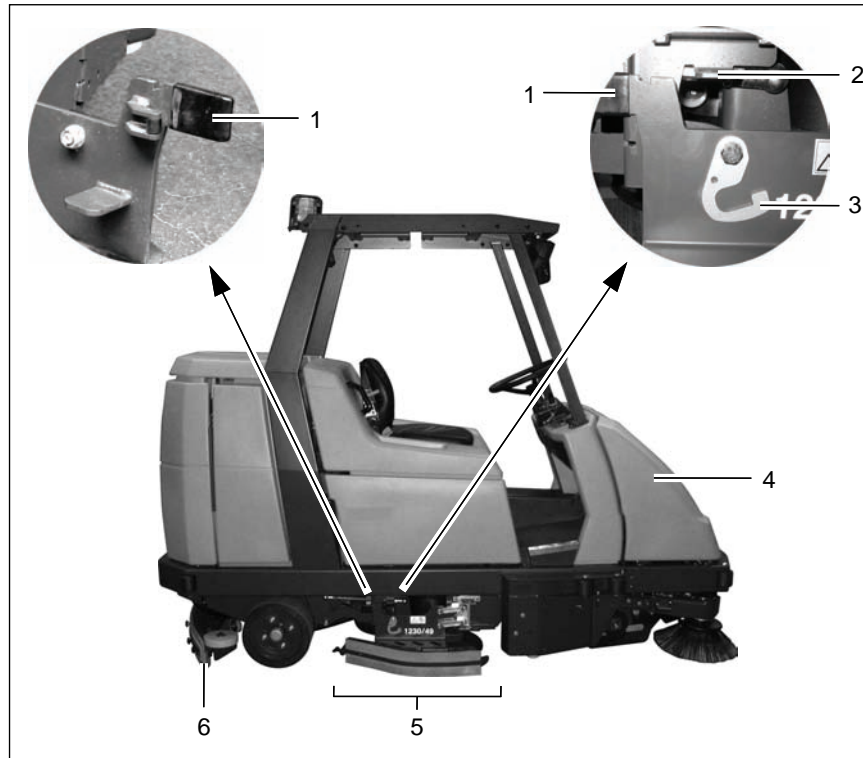

Fig. 15
3.1.1 Pre-sweep/vacuum unit (Fig. 15/4)
3.1.2 Scrubbing unit (Fig. 15/5)
Deflectors (Fig. 15/5)
The deflectors can be raised, if necessary. This is the case for basic cleaning, for example, where the floor only needs to be scrubbed when wet and the solution is not vacuumed up but allowed to soak in instead. To raise the deflector, take hold of the grip (Fig. 15/1), raise it and hook the locking hooks (Fig. 15/3) in the recesses in the angle (Fig. 15/2) above it. Proceed in the same way on the other side of the side of the vehicle.
3.1.3 Squeegee (Fig. 15/6)
The collision protection for the two side brushes on the pre-sweep/vacuum unit consists of two angled steel bars which can be assembled at the front left and front right of the pre-sweep/vacuum unit (Fig. 15/4) and protect the scrubber-drier from damage caused by collisions.